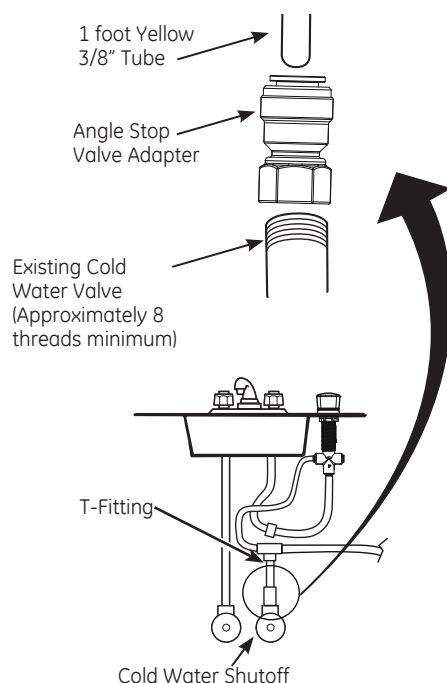

Fig. 1
5. Insert one foot long yellow tube into bottom of T-fitting (see Figure 1). Insert 3 foot long yellow tube into one side of T-fitting. Insert 4 foot long yellow tube into other side of T-fitting. Pull firmly on tubes to make sure they are secure.